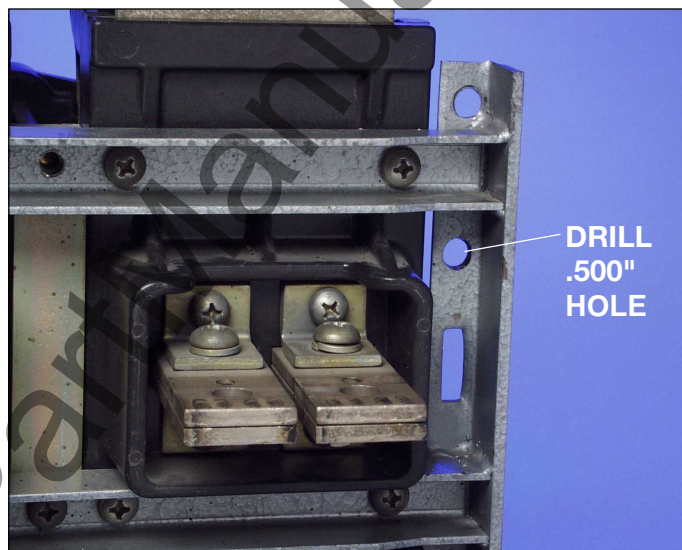

Fig. 4 Optional Drilling Plan "A"
- B. *For Use on Some Versions:* Working from the rear of the Breaker and using a .500" drill bit, drill a hole in the left Breaker Angle, directly below the top Breaker Cross Rail (See Fig. 4). This hole will be used later in the Retrofit Process when installing the Sensor Harness.